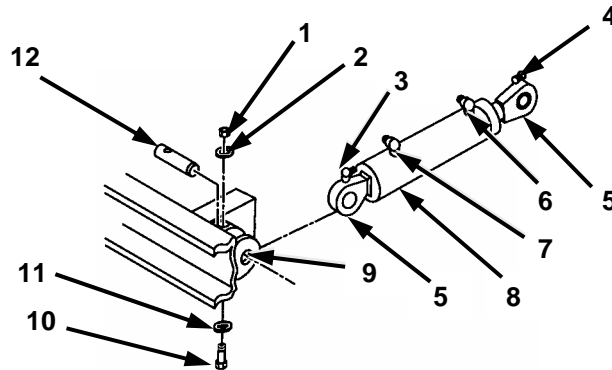

Figure 2-27. Hydraulic Track Adjuster Cylinder (2 of 4).
- b. Install elbow 2062-6-6S (4) to rear cylinder port (3).
- c. If not installed, install lubrication fitting (Figure 2-27, 3) and plug (5) on fixed end of hydraulic track adjusting cylinder 12466272 (8), so that lubrication fitting (3) faces forward and hydraulic ports (6 and 7) face upward.